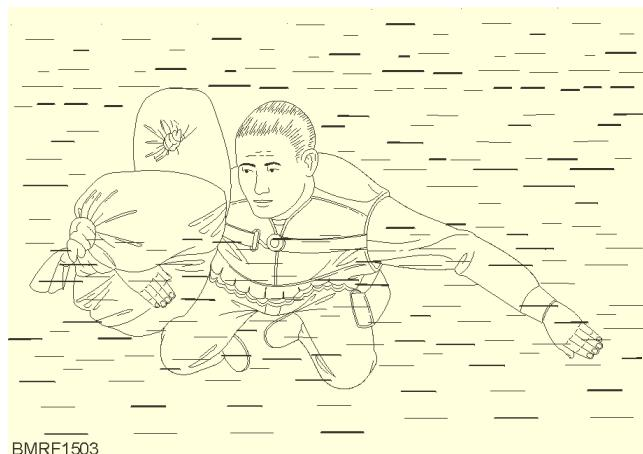

Figure 15-3.—Using inflated trousers/slacks for support.
7. Then gather the waist under the water and hold in one hand (fig. 15-3). Keep the trousers legs wet by splashing water on them to reduce the loss of the trapped air.